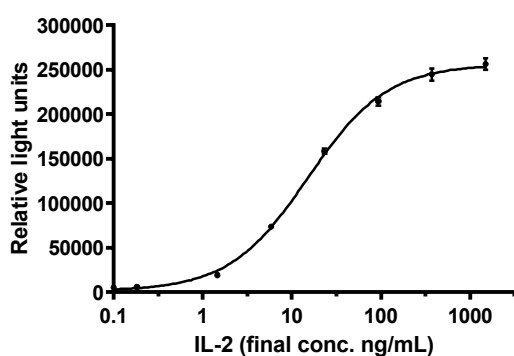

Figure 1. Example of IL-2 calibration curve.
The *iLite*® IL-2 Assay Ready Cells are engineered cells, optimized to express Firefly luciferase (FL) under the control of an IL-2 responsive promoter. Binding of IL-2 to the IL-2 receptor (IL-2R $\alpha$ , IL-2R $\beta$ , and IL-2R $\gamma$ ) results in activation of the IL-2 regulated Firefly luciferase reporter gene construct. *iLite*® IL-2 Assay Ready Cells also contain the Renilla Luciferase (RL) reporter gene, under the control of a constitutive promoter. The constitutive expression of RL allows normalization of IL-2 induced FL activity, and renders assay results independent of variations in cell number or serum matrix effects. The luciferase signal can be measured in a luminometer following addition and incubation of luciferase substrate. The Firefly luciferase signal is proportional to the concentration of functional IL-2 in a sample (Fig.1).